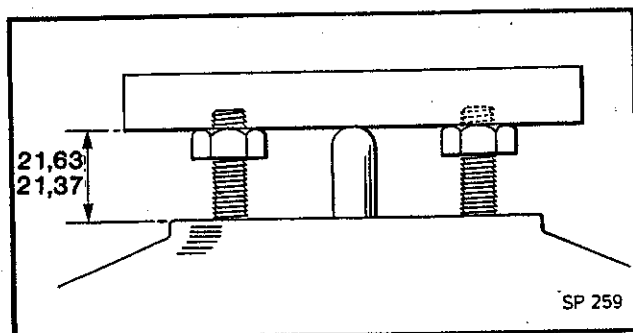

Fig. 6 Output Pushrod Setting
The output pushrod adjustment must now be checked. The distance the end (41) of the pushrod protrudes at rest from the shell is critical and must be checked and set accurately. This dimension is 21,63/21,37mm. Fig. 6 shows how the dimension